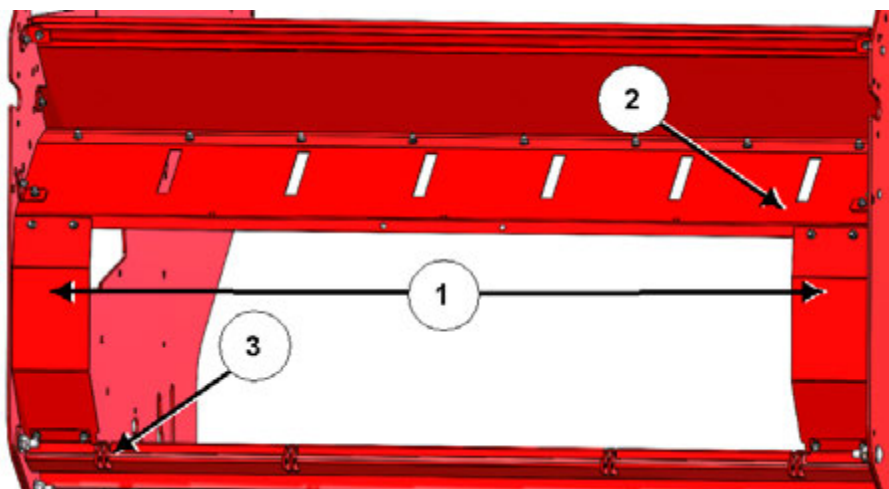

Figure 28: Install flail drum door side panels
8. Install the flail drum door side panels (Item No. 7 in Table 1); see Figure 28.
- a. Using the provided carriage bolts and flange lock nuts, fasten the front and rear flail drum door side panels (1) to the guard rod side sheet (2) and the lower sheet (3), ensuring they are installed in the correct orientation.